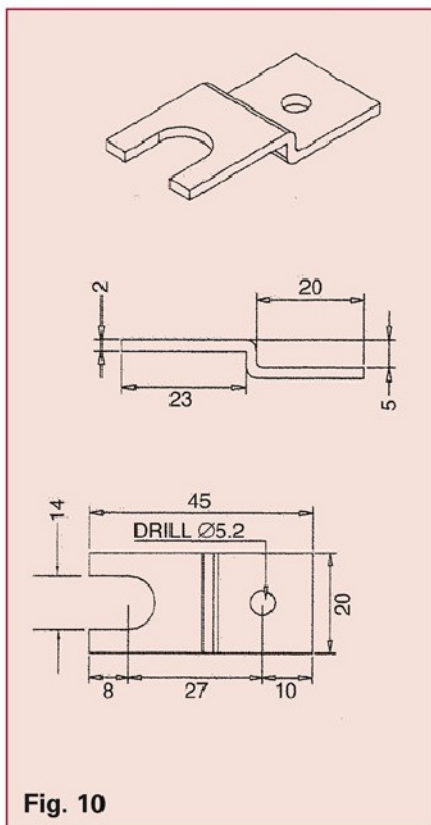
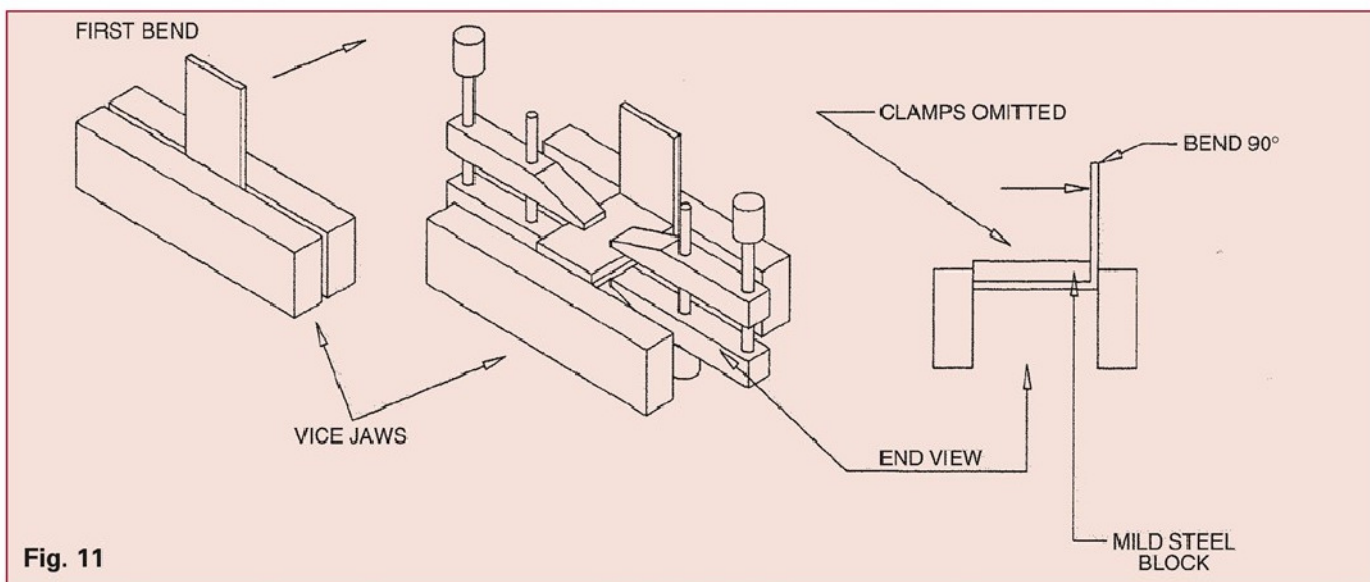

Fig. 10
Fig. 11
Setting the bracket in place and transferring the 5.2 dia hole into item 2, might pose a slight problem, in that, the screwed pin item 3, is rather long and obstructs the set up from being held in the drill vice. One way around the problem, is to either spot through the hole with a hand drill, or to mark the centre of the hole by placing the 5.2mm drill in the hole and turning the drill in a anti-clockwise direction at the same time tapping the end of the drill to make an impression into item 2, repeat this several times (make sure that you have a sharp point on the drill). Remove the bracket, and carefully centre punch the marked position. The hole can now be drilled 4.2mm dia. to a depth of 15mm deep and tapped M5. If the reader has problems clamping the bracket to item 2, that is, no clamps small enough (this is where a pair of small toolmakers clamps are ideal, see Fig 11) then get someone to hold the bracket in place, while you centre the hole with the 5.2mm drill. You could, of course, temporarily superglue the bracket in place.
Cut the material off for the bracket (Fig 10) about 60mm long, this will leave enough material on each end of the bracket to trim to size after forming. Fig 11 illustrates the method used for forming the bracket. I first bent the material in the vice,